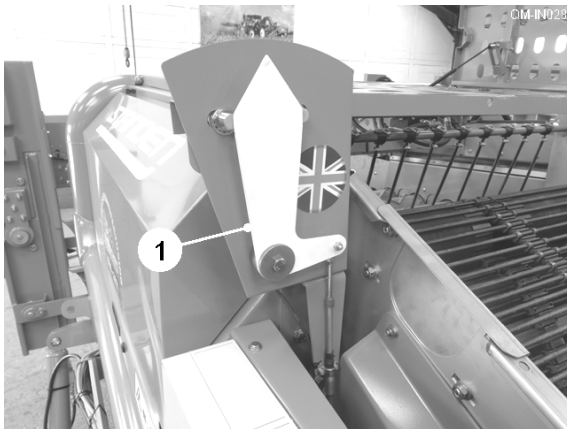

Fig. 21
Wheel steering is controlled from the control box. Use the steering to keep the machine correctly in the rows, especially on slopes. If the LH wheel is allowed to run on or against the next ridge, the soil may become compressed, making the crop difficult to separate. Also, potatoes may be damaged. A steering indicator (item 1, fig. 21) is fitted to show the attitude of the wheels. To centre the wheels automatically, move and hold the joystick forward or backward (indicated by the symbols).
Always close the transport lock valve(s) (item 2, fig. 21) when transporting the machine on the road.